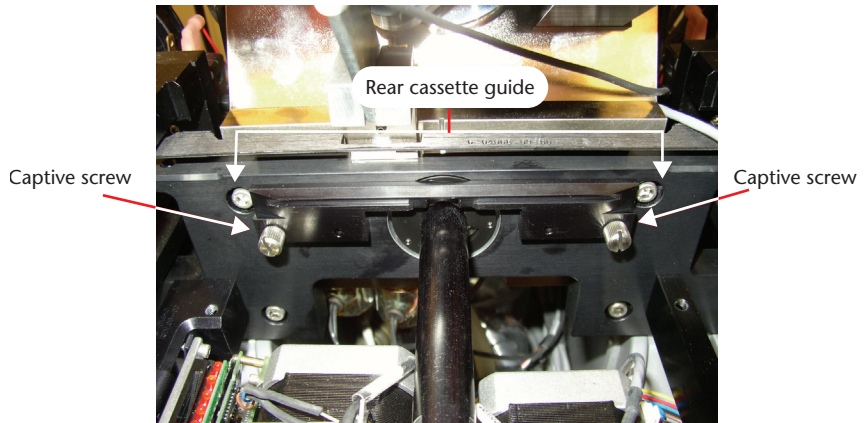

Fig. 16: The rear cassette guide, installed.
4. Completely loosen the captive screws on either side of the rear cassette guide (Fig. 16).